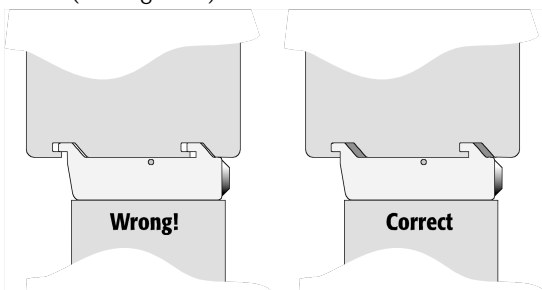

Figure 4. Attaching PAL objects to the PAL X-axis
- 2 Double check if the Tool Parkstation mounting clamp is correctly attached to the PAL X-axis (see Figure 4)